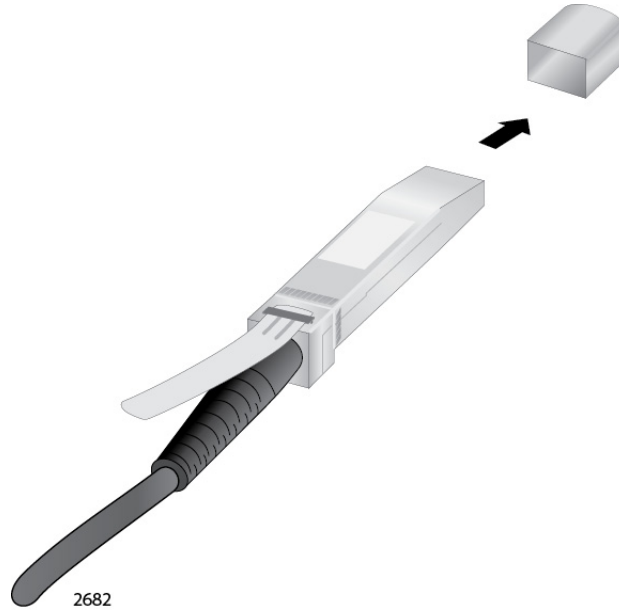

Figure 34. Removing the Dust Cover from the Transceiver
3. Remove the dust cap from one end of the transceiver, as shown in Figure 34 on page 64.